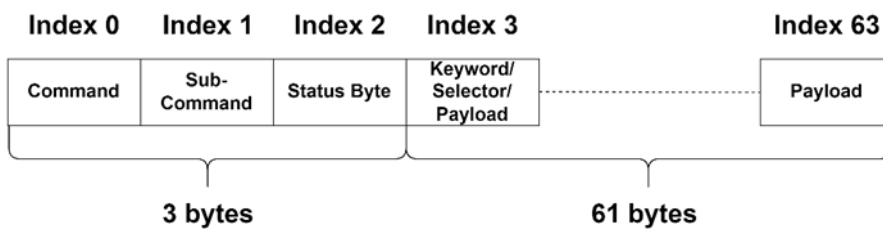

Figure 1: Frame of the Teleshake (95) AC USB communication protocol
For the “Teleshake (95) AC USB” device family a communication protocol is provided that consists of 64 bytes (Figure 1).